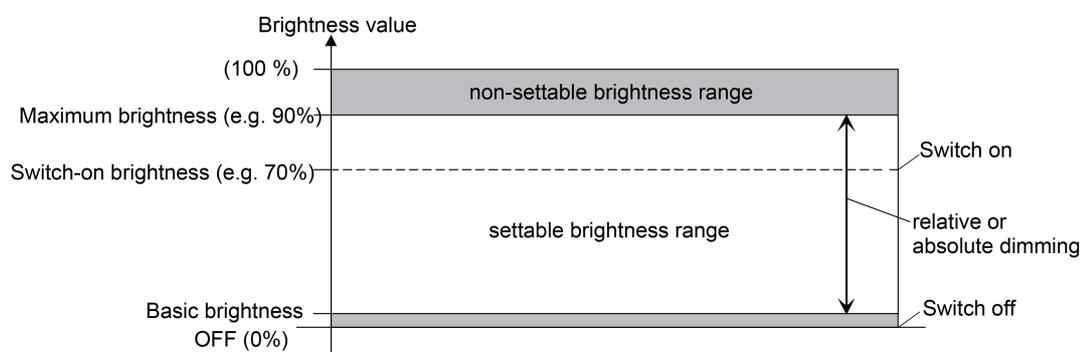

Figure 13: Example of a brightness range with basic brightness
- Definition of the lower brightness limit with basic brightness (figure 13):